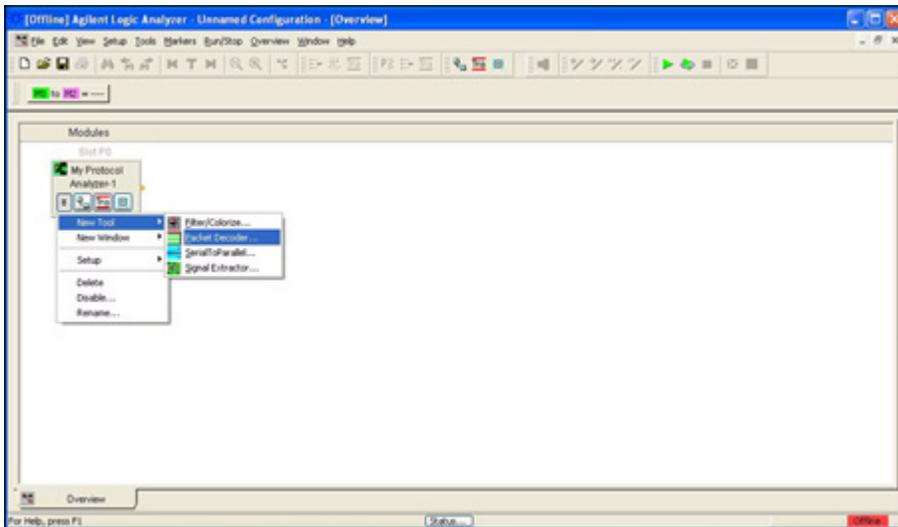

Figure 47 Packet Decoder
- 2 Select **New Tool > Packet Decoder** as shown in the Figure 47. The **Packet Decoder** panel appears under **Tools** column.